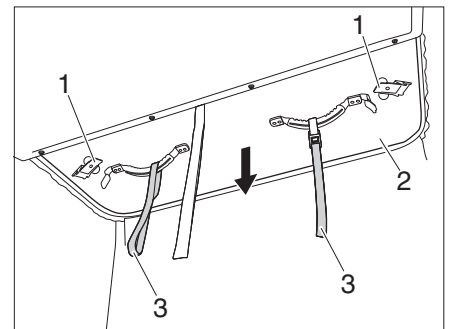
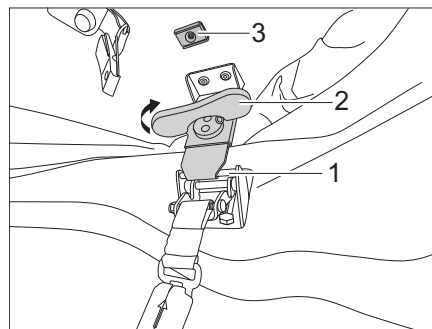

Fig. 24 Pulling the pop-up roof downwards
Fig. 25 Tensioning the locking mechanism
- ▷ In order to avoid possible damage to the tent fabric fasten the locking lever (Fig. 24,1) at the top to the magnet (Fig. 25,3).
- ▷ Before starting your journey, check whether the locking levers of the latches (Fig. 25,1) on the left and right are correctly tensioned. If necessary, adjust the lock according to the instructions from the manufacturer.
- Check whether the locking mechanism are secured by the magnets (Fig. 25,3).
- **Slowly** pull the pop-up roof (Fig. 24,2) downwards at the pulling devices (Fig. 24,3) while looking to the rear and ensure that the cloth bellow falls neatly towards the inside.
- Loosen the locking lever (Fig. 24,1) from the magnet (Fig. 25,3) and attach it into the catch (Fig. 25,1).
- Turn the twist grip (Fig. 25,2) of the locking mechanism clockwise until the locking mechanism is fastened.
- Fold the twist grip (Fig. 25,2) upwards.
- ▷ If the locking levers (Fig. 24,1) move excessively and the pop-up roof cannot be properly shut, adjust the latch as described in section 12.3.2.